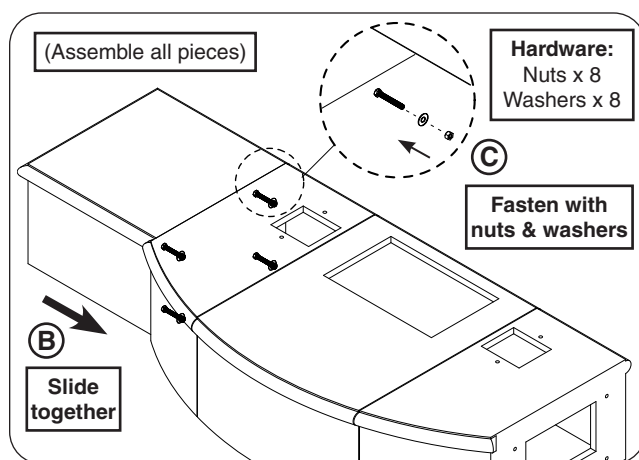

Fig. 23-2 Assemble hearth - slide together & fasten
3. Carefully slide the left outer-piece against the center piece while aligning the pilot holes. Then reach into the center hearth (through access opening), place the washers and nuts, and hand tighten. See Fig. 23-2.